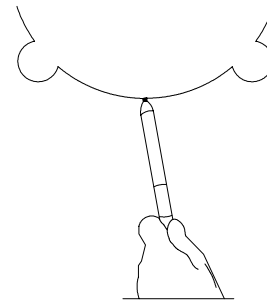

Figure 18
- 2) Base on the red spot to draw the sign ( Figure18 ) .